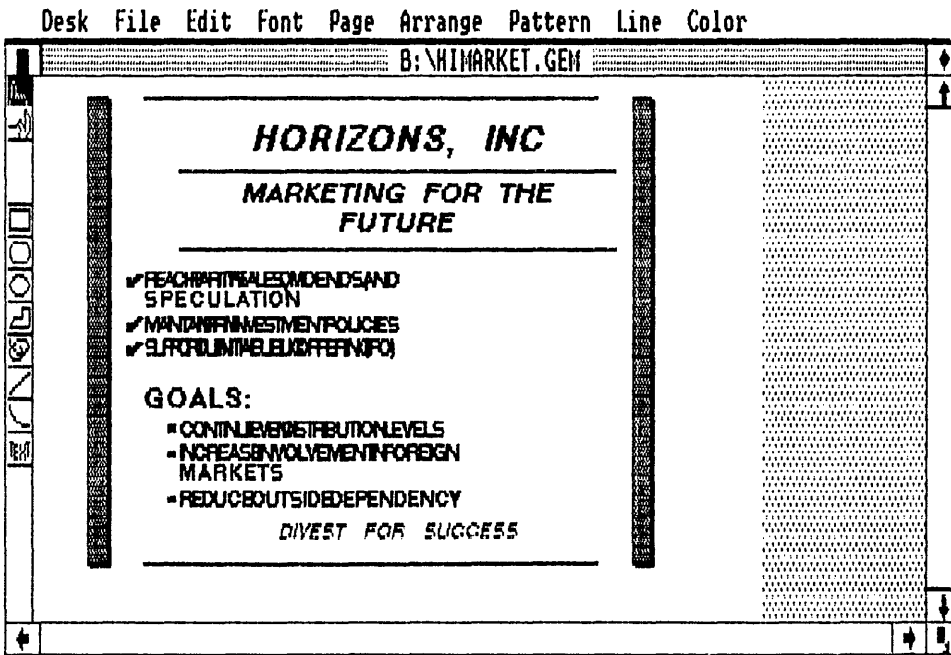

Fig. 6-9. GEM Draw can be used for enhancing a wordchart. Notice how the text is mishandled by GEM Draw.
- Modify the wordchart (Fig. 6-9).